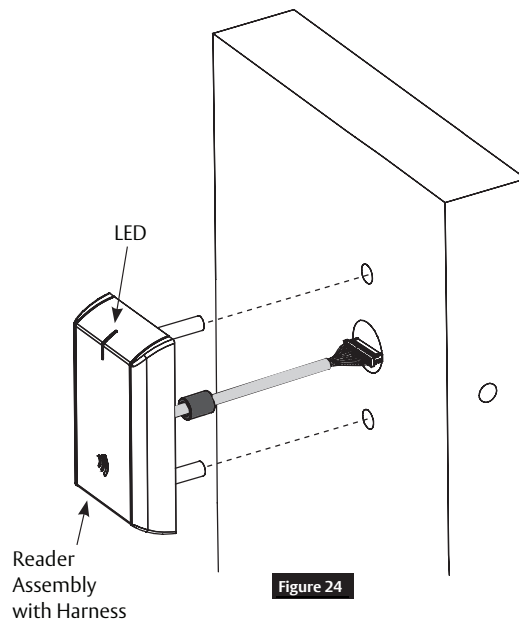

Figure 24
1. Orient reader so LED lens is at top. (Figure 24)